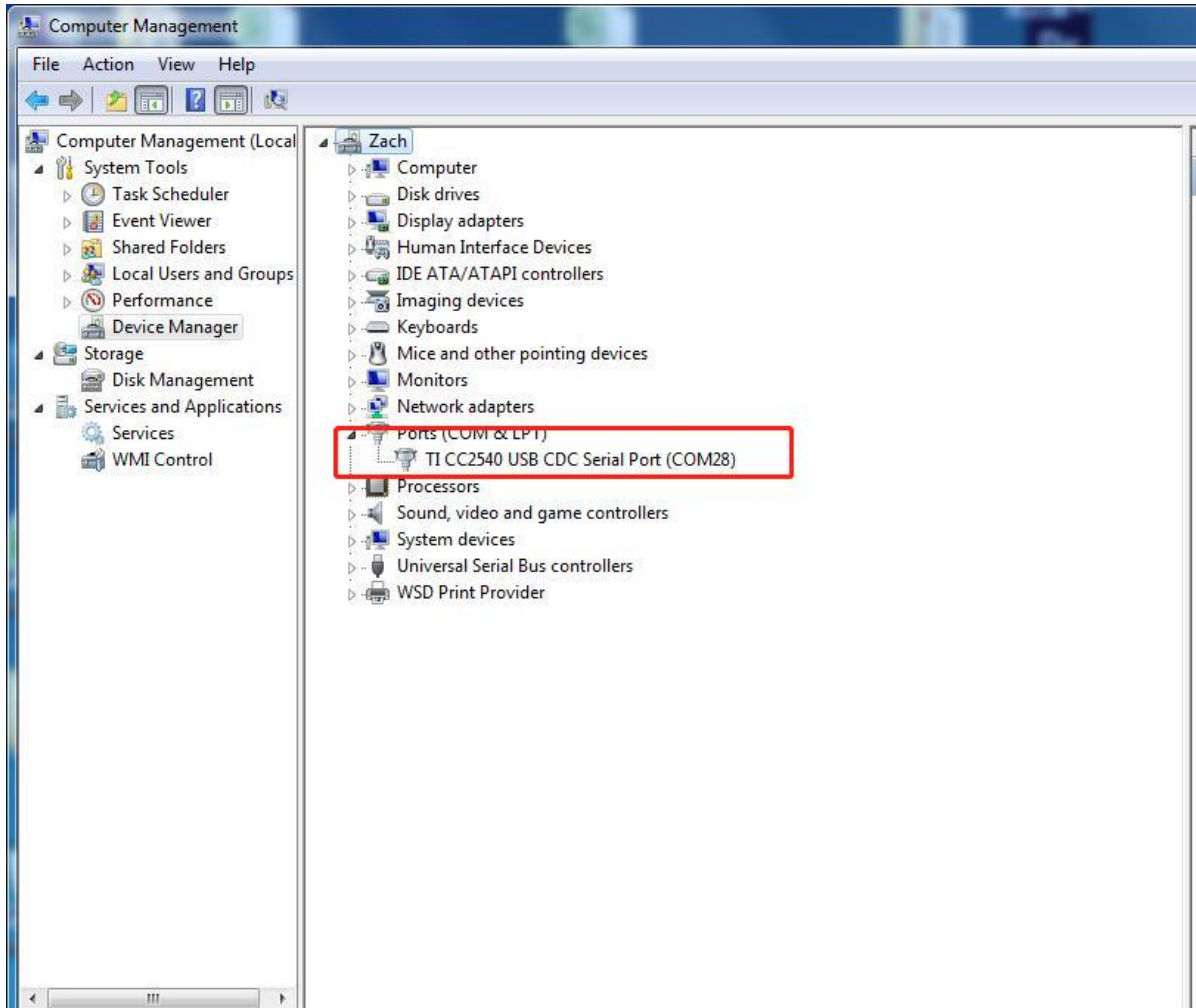

Figure 1.1 Drive the successful installation interface
- 1) Right-Click “Computer” → “attribute” → “Device manager” → check “port (COM<)” , If you look at this figure 1.1